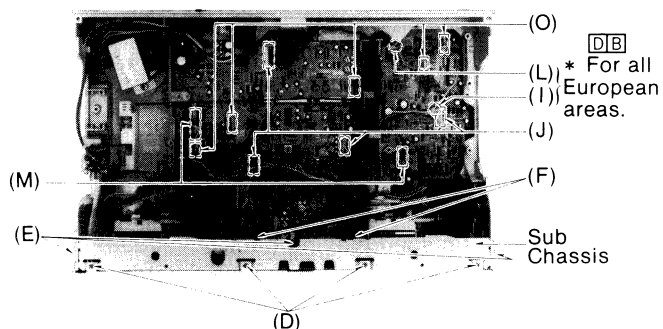
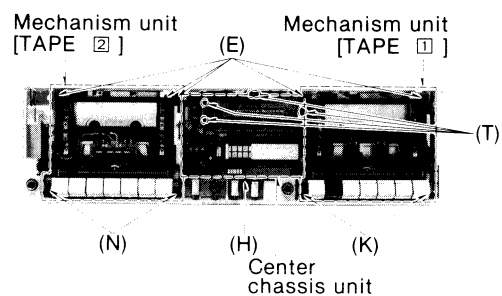
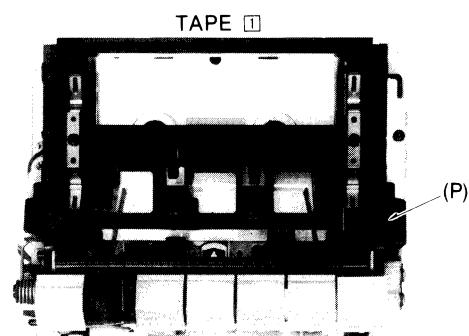
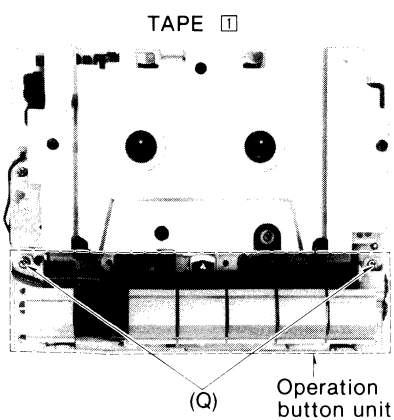

Fig. 3
Fig. 4
Fig. 6
Fig. 7
Ⓐ Head azimuth adjustment [TAPE ①, TAPE ②] Condition: • Playback mode Equipment: • VTVM • Oscilloscope • Test tape (azimuth) ... QZZCFM	L-ch/R-ch output balance adjustment 1. Make connections as shown in fig. 3.  2. Playback the 8kHz signal from the test tape (QZZCFM). Adjust screw (B) in fig. 4 for maximum output L-ch and R-ch levels. When the output levels of L-ch and R-ch are not at maximum at the same time, readjust as follows. 3. Turn the screw shown in fig. 4 to find angles A and C (points where peak output levels for left and right channels are obtained). Then, locate the angle B between angles A and C, i.e., a point where L-ch and R-ch output levels come together at maximum. (Refer to figs. 4 and 5).  L-ch/R-ch phase adjustment 4. Make connections as shown in fig. 6. 5. Playback the 8kHz signal from the test tape (QZZCFM). Adjust screw (B) shown in fig. 4 so that pointers of the two VTVMs swing to maximum and a waveform as illustrated in fig. 7 is obtained on the oscilloscope.
Ⓒ Playback frequency response [TAPE ①, TAPE ②] Condition: • Playback mode • Normal tape mode • Set TAPE ① level control to "8". Equipment: • VTVM • Oscilloscope • Test tape ... QZZCFM	Playback frequency response chart [TAPE ①, TAPE ②]  1. Test equipment connection is shown in fig. 3. 2. Place UNIT into Normal tape mode. 3. Playback the frequency response test tape (QZZCFM). 4. Measure output level at 315 Hz, 12.5 kHz, 8 kHz, 4 kHz, 1 kHz, 250 Hz, 125 Hz and 63 Hz, and compare each output level with the standard frequency 315 Hz, at LINE OUT. 5. Make measurement for both channels. 6. Make sure that the measured value is within the range specified in the frequency response chart (shown in fig. 9). Fig. 9
Ⓓ Playback gain [TAPE ①, TAPE ②] Condition: • Playback mode • Normal tape mode • Set TAPE ① level control to "8". Equipment: • VTVM • Oscilloscope • Test tape ... QZZCFM	1. Test equipment connection is shown in fig. 3. 2. Playback standard recording level at LINE OUT. 3. Make measurement for both channels. <div style="border: 1px solid black; padding: 5px; text-align: center;"> Standard value: TAPE ①, TAPE ② [0.42 V; at 8"] </div> Adjustment 1. If measured value is not within standard value, adjust VR1 (TAPE ②: L-CH), VR2 (TAPE ①: R-CH). 2. After adjustment check "Playback frequency response".
Ⓔ Erase current [TAPE ②] Condition: • Record mode • Metal tape mode Equipment: • VTVM • Oscilloscope	1. Test equipment connection is shown in fig. 3. 2. Place UNIT into Metal tape mode. 3. Press the record and pause buttons. 4. Read voltage on VTVM and calculate erase current by following formula: $\text{Erase current (A)} = \frac{\text{Voltage (V)}}{10}$ <div style="border: 1px solid black; padding: 5px; text-align: center;"> Standard value: 160 ± 10 mA </div> 5. If measured value is not within standard value, adjust VR1 (TAPE ②: L-CH), VR2 (TAPE ①: R-CH). Adjustment 1. Open the point (A) and short the point (B). (See page 15). 2. Make measurement for erase current. 3. Make sure that the measured value is within the standard value. 4. If it is beyond the value, carry out the adjustment. • If the erase current is less than 160 mA, increase the bias current. • If the erase current is more than 160 mA, decrease the bias current.
<p>ection is shown in fig. 3.</p> <p>ording level portion on test tape (QZZCFM 315Hz, 0dB), and using VTVM level at LINE OUT.</p> <p>or both channels</p> <p>TAPE [1], [2]; 0.4V ± 1dB [0.42V; at test point TP3 (L-CH) and TP4 (R-CH)]</p> <p>ot within standard, adjust VR201 (TAPE [1]: L-CH), VR202 (TAPE [1]: R-CH), VR2 (TAPE [2]: R-CH).</p> <p>ck "Playback frequency response" again.</p>